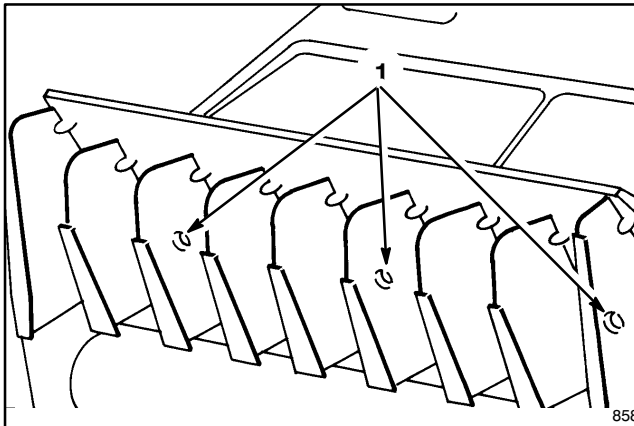
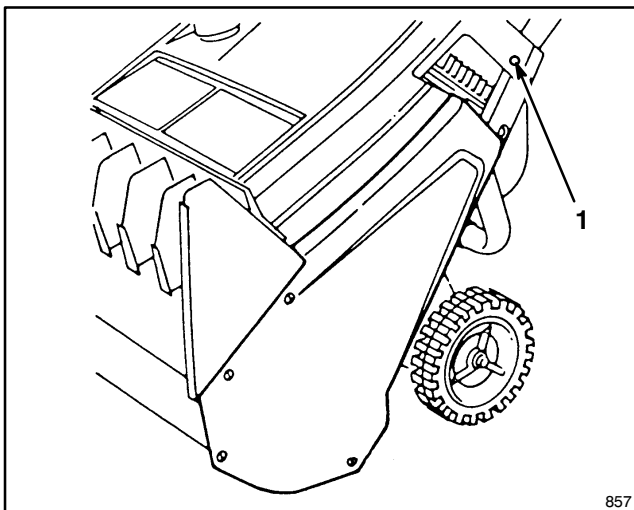

Figure 1
Figure 2
2. Remove (3) three screws from front of upper shroud (Fig. 1) and (2) two self-tapping screws from either side of upper shroud (Fig. 2). Save screws.